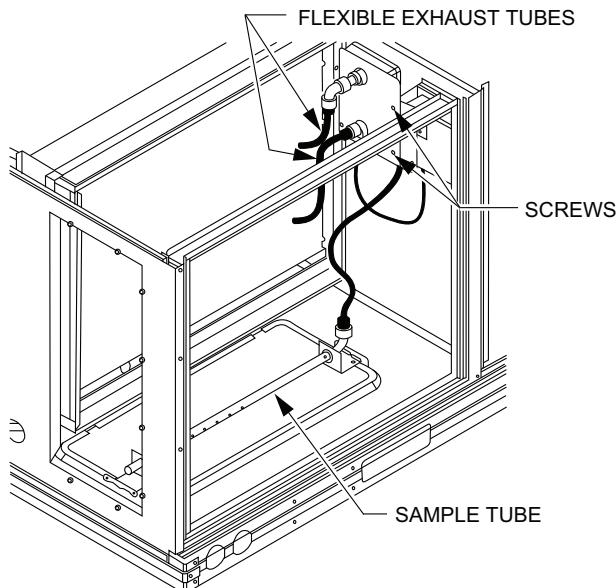

Fig. 40 — Return Air Smoke Detector Shipping Position
1. Unscrew the two screws holding the return air sensor detector plate. See Fig. 40. Save the screws.